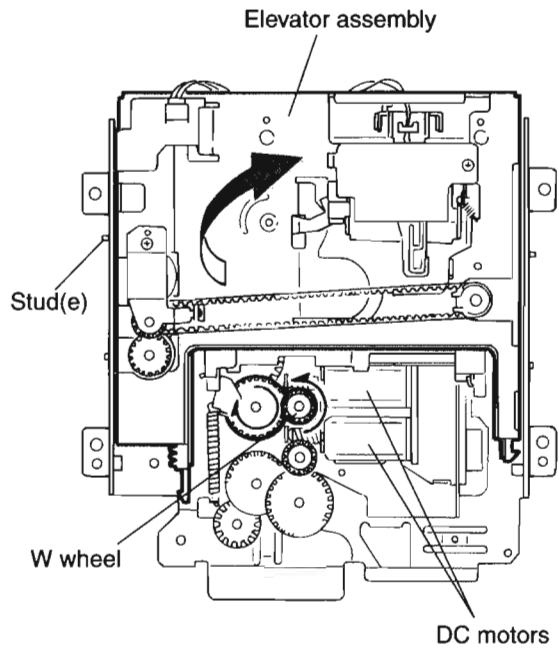

Fig.7
### ■ Removing the Elevator assembly (see Fig.7 and 8 )
2. Turn the W wheel in the direction of the arrow to raise the Elevator assembly(see Fig.7) and allow Stud(e) to reach the top of the groove(see Fig.8 ).